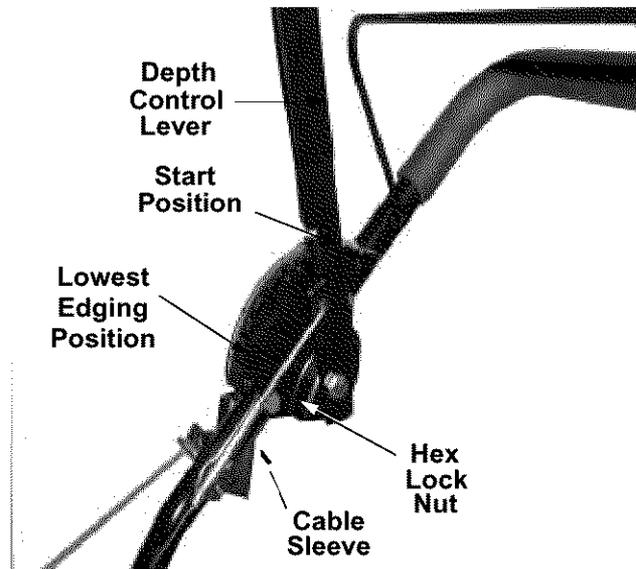

Figure 5
2. Move the blade depth control handle back to the START position (as far as it will go), and place it in the last notch. See Figure 5.